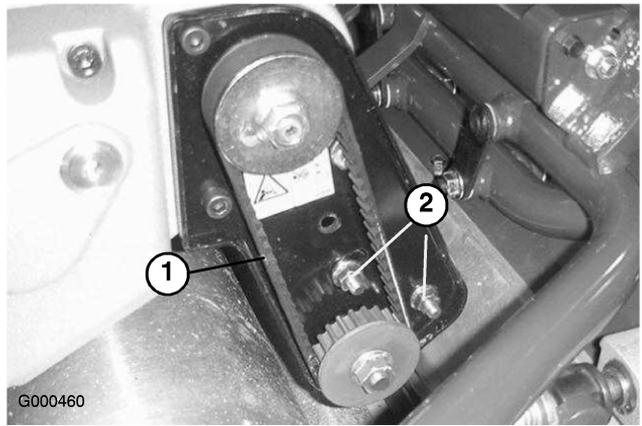

Figure 36
- A. Loosen the bearing housing mounting nuts (Figure 36).
- C. Tighten the bearing housing mounting nuts (Figure 36). Do not over-tension belt.